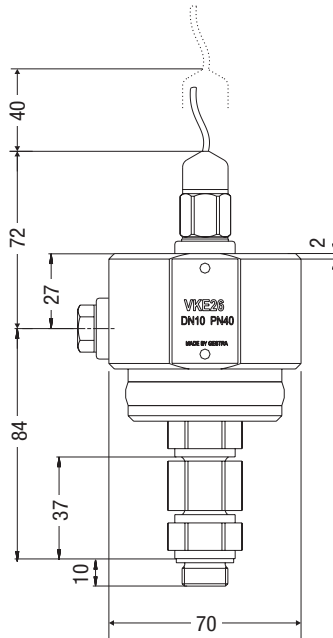

Fig. 9
5. Consider space required for servicing. When the test chamber is installed a minimum space is required for removing the measuring electrode (see **Fig. 9**).